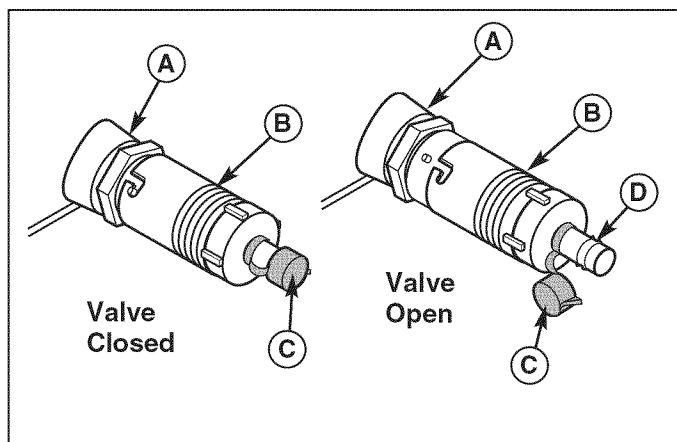

Figure 24. Oil Drain Valve
3. Wipe oil drain valve (B, Figure 24) and cover (C) with paper towel or rag.